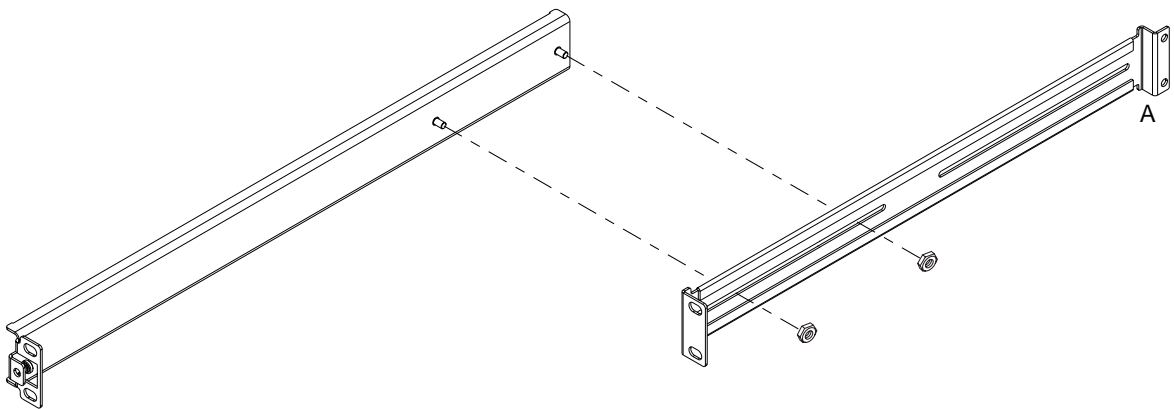

FIGURE 1-2 Slide Mounts for Sun 72-inch Expansion Rack
- FIGURE 1-2 Slide Mounts for Sun 72-inch Expansion Rack 2
Refer to FIGURE 1-2.